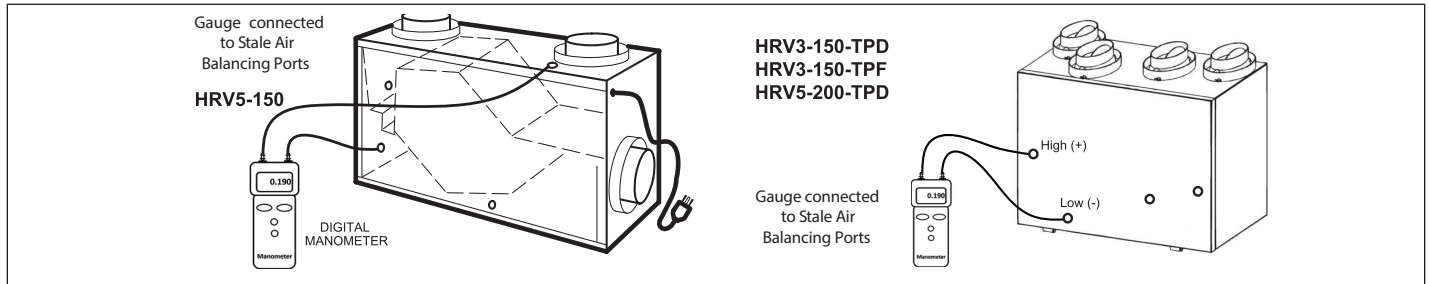

Figure 43. Door Balancing Ports - Stale Air
5. Measure Stale Air Insert the two rubber fittings from the gauge to the STALE AIR Balancing Ports (see Figure 43 on page 31). Seal the FRESH AIR Balancing Ports (upper left and lower right) with tape. Record your reading.